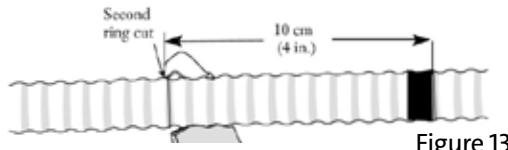

Figure 13
- Step 3:** Make a second ring cut in the outer sheath 10 cm (4 in) past the tape mark (Figure 13).